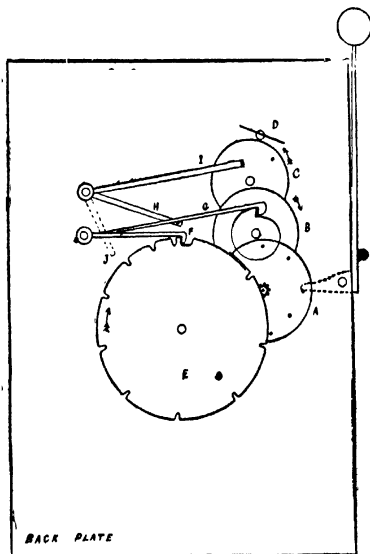

FIG. 77.—English Locking-plate Striking Mechanism.
**Locking-plate Striking Work.**—Fig. 77 shows the back plate view of a locking-plate striking mechanism. A is the pin wheel which lifts the hammer. B is the next or "cam" wheel, having a brass disc or cam upon its axis, in which is an opening for the arm G to fall into, and stop the striking train. C is the warning wheel, D the fly. F is an arm attached to the same axis as G and resting upon the rim of the locking-plate E. H, I, and J are three arms attached to one axis and acting as one. J is outside the front plate and lifted by the pin in the minute wheel as the hour is approached and let fall again at the hour. I is the warning arm and a block on its end catches
As the pin wheel (A, Fig. 77) has eight lifting pins, if a pinion of eight leaves is fixed to it its back pivot outside the plate, one leaf of the pinion will represent one pin, or one blow of the hammer. So for the locking-plate to make one revolution in twelve hours, it must be mounted upon a wheel of seventy-eight teeth driven by the pinion of eight, seventy-eight being the sum of the numbers 1 to 12 inclusive, or the number of blows of the hammer in twelve hours. Mounted thus, the locking-plate may be looked upon as divided into seventy-eight spaces, with slots at the 1st, 2nd, 4th, 7th, 11th, 16th, 22nd, 29th, 37th, 46th, 56th, and 67th divisions. The 1st and 2nd will merge together forming one wide slot.